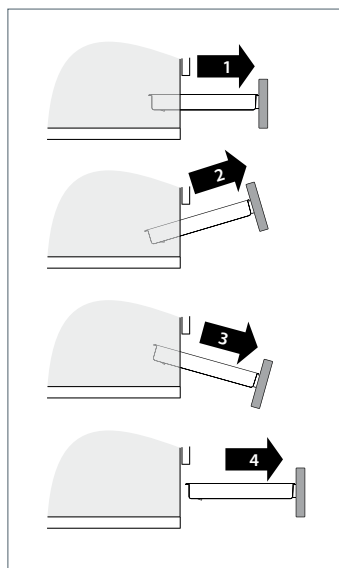

Fig. 6a Removing the drawer
- Remove the drawer (Fig. 6a).